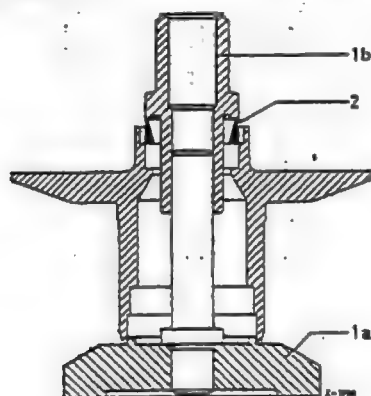

Fig. 33-5/5
16. Press the outer races (2) and (3) of the annular taper roller bearings into the front wheel hub using Assembly Fixture 120 589 03 61 in the case of the 1st version front wheel bearings and Assembly Fixture 111 589 13 61 in the case of the 2nd version front wheel bearings (Figs. 33-5/5 and 33-5/6).